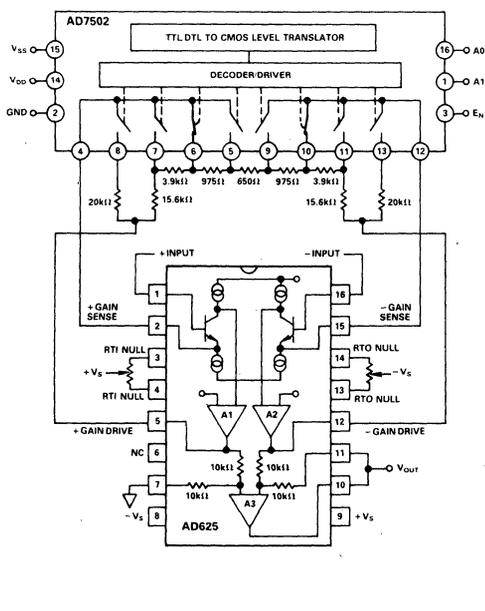
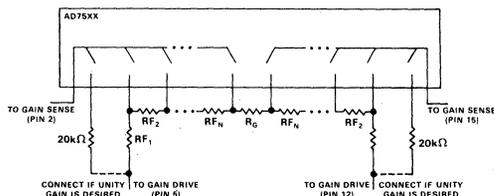

Figure 38. SPGA in a Gain of 16
Figure 41. Resistors for a Gain Setting Network
Figure 38 shows an AD625 based SPGA with possible gains of 1, 4, 16, 64. R_G equals the resistance between the gain sense lines (pins 2 and 15) of the AD625. In Figure 38, R_G equals the sum of the two 975Ω resistors and the 650Ω resistor, or 2600Ω. R_F equals the resistance between the gain sense and the gain drive pins (pins 12 and 15, or pins 2 and 5), that is R_F equals the 15.6kΩ resistor plus the 3.9kΩ resistor, or 19.5kΩ. The gain, therefore equals:
The individual resistors in the gain network can be calculated sequentially using the formula given below. The equation determines the resistors as labeled in Figure 41. The feedback resistors and the gain setting resistors are interactive, therefore; the formula must be a series where the present term is dependent on the preceding term(s). The formula
running total of the preceding feedback resistors. To illustrate how the formula can be applied, an example similar to the calculation used for the resistor network in Figure 38 is examined below.
1) Unity gain is treated as a separate case. It is implemented with separate 20kΩ feedback resistors as shown in Figure 41. It is then ignored in further calculations.
2) Before making any calculations it is advised to draw a resistor network similar to the network in Figure 41. The network will have $(2 \times M) + 1$ resistors, where M = number of gains. For Figure 38 $M = 3$ (4, 16, 64), therefore, the resistor string will have 7 resistors (plus the two 20kΩ "side" resistors for unity gain).
5) If different resistor values are desired, all the resistors in the network can be scaled by some convenient factor. However, raising the impedance will increase the RTO errors, lowering the total network resistance below 20kΩ can result in amplifier instability. More information on this phenomenon is given in the RPGA section of the data sheet. The scale factor will not affect the unity gain feedback resistors. The resistor network in Figure 38 has a scaling factor of $650/625 = 1.04$, if this factor is used on R_{F_1} , R_{F_2} , R_{F_3} , and R_G , then the resistor values will match exactly.